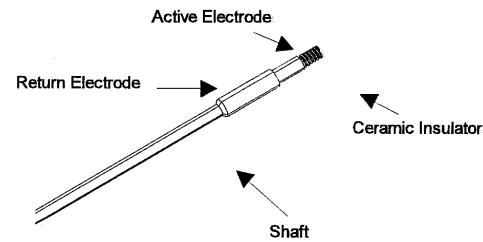

Fig 5.3a
- Coiled active tips - primarily intended to provide vaporisation and instantaneous coagulation of tissues (figure 5.3a).